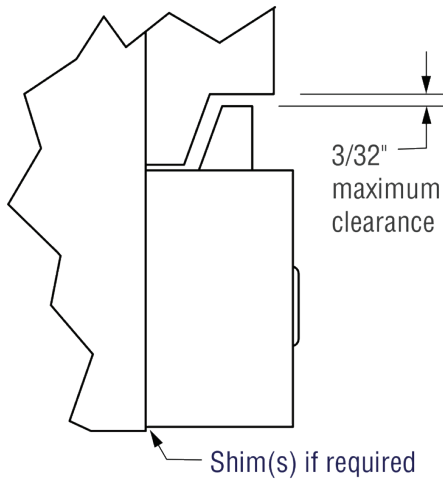

Figure 4-3, Lower Hook Clearance
7. Install the bolt-on lower hooks. Inspect clearance between the carriage and the lower hooks. Adjust the lower hooks for a maximum clearance of **3/32"** (see Figure 4-3).